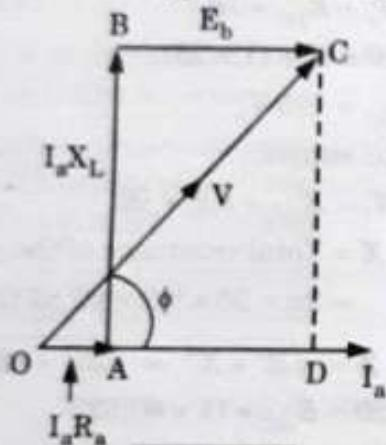

Fig. 5.9.1.
3. The phasor diagram of AC supply is shown in Fig. 5.9.1.